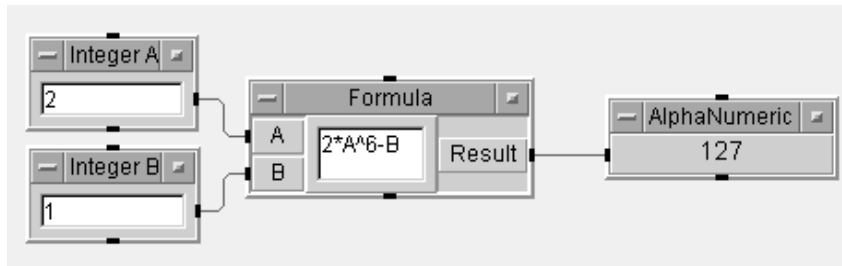

Figure 5.1. Evaluating an expression and viewing the results
14. Run your program. See Figure 5.1 for the result (in the AlphaNumeric display).